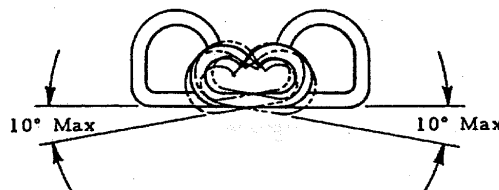

Figure 5
- B. **Twist or Roll:** Twist or Roll of the crimped contact shall not exceed the limits specified in Figure 5.